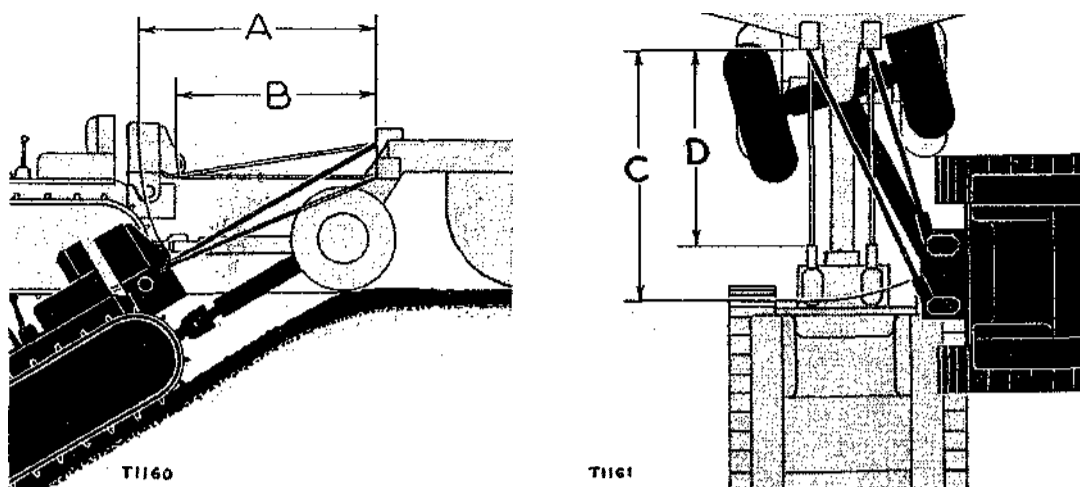

FIGURE 8—CHANGE IN DISTANCE BETWEEN CABLE CONTROL SHEAVES AND SHEAVES ON DRAWN EQUIPMENT
C. Operation. (See figure 8.)
(1) Engage the clutch with a quick full movement of the control lever in order to avoid clutch slippage and overheating.
(2) Release the brake with a short movement of the lever. Let the lever return to the "neutral" position at the instant the equipment being used is in the desired position in order to avoid excess slack and fouling of the cable.
(3) When the cable control is used for bulldozer or ripper work only the control lever for the unused clutch should remain in the "neutral" position. Occasionally engaging the unused clutch will drive out dirt from between the clutch discs. If this dirt is allowed to pack between the discs it may cause unsatisfactory operation.
(4) When operating a scraper, after unloading, operate with the bowl and the apron partially lowered. Turning the tractor and scraper with